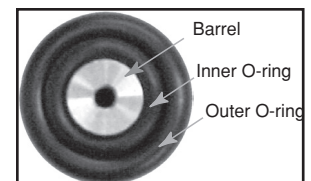

Figure 4.1-7.
4.1.3.7. **Place** two O-rings in the O-ring grooves on the flight tube end of the clam shell (Figure 4.1-7).